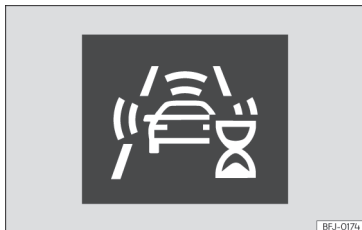

Fig. 168 On the instrument panel display: initial system self-calibration indication.
- In the first few instants of driving after switching on the ignition, due to the system's initial auto-calibration. During this period, a status icon » **Fig. 168** is displayed.